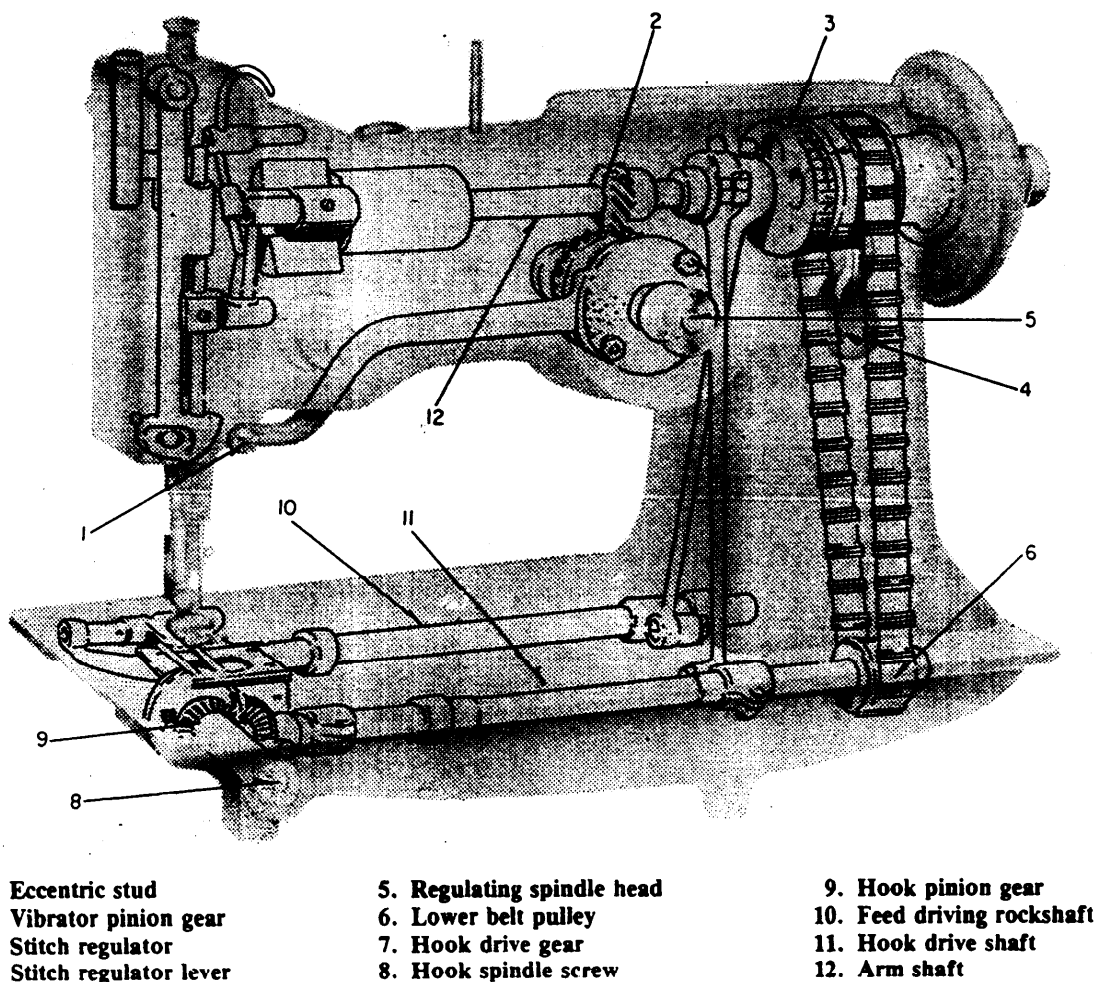

Figure 9-40.-X-ray view of zigzag sewing machine.
Turn the regulating spindle head all the way to the right. This will cause the machine to sew a straight stitch. The needle should be centered in the hole in the throat plate. If not, loosen the setscrew that holds the eccentric stud (1) and turn the stud until it is centered (fig. 9-40.) Turn the needle regulating spindle head (5) to the extreme left for the widest throw. Turn the balance wheel forward until the needle is at its lowest position. The needle bar should start to move in a sideward movement as the needle starts to rise. If it does not, you must advance or retard the vibrator pinion gear (2), shown in figure 9-40.